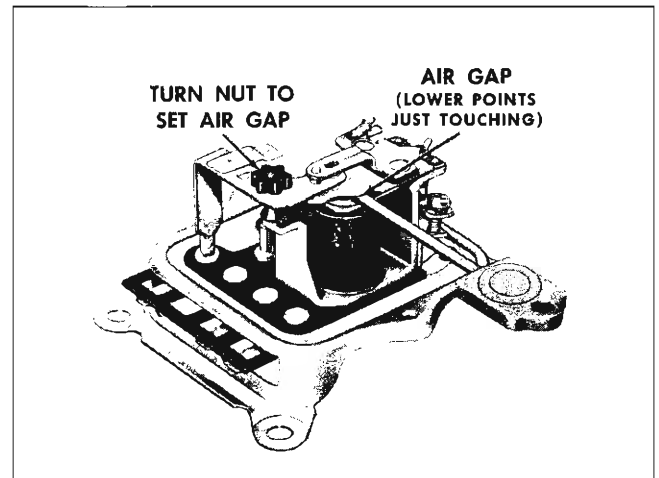

Fig. 11-35 Air Gap Adjustment
10. The difference in voltage between the operation of the upper set of contacts and the lower set is increased by slightly increasing the air gap between the armature and center of core and decreased by slightly decreasing the air gap (see Fig. 11-35) for changing the voltage regulator air gap. If it is found necessary to make this air gap adjustment, it will be necessary to recheck the voltage setting of both sets of contacts.
**Air Gap:** Measure the air gap with a feeler gauge placed between the armature and core when the lower contacts are touching as shown in Fig. 11-35. If necessary adjust to .057" by turning the nylon nut located on the contact support.